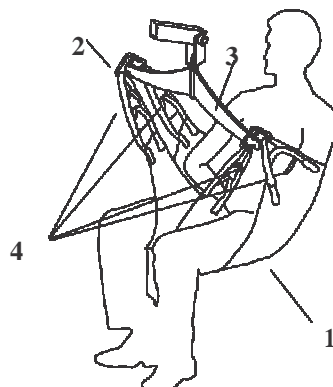

Fig. 4 Use of slings
4.3 Use of slings Art. N 9601 and Art. N 9603 (Figure 4)